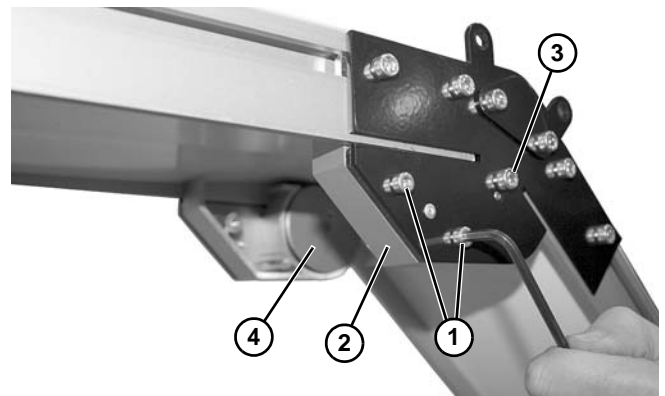

Figure 123
- If equipped with an upper knuckle, remove screws (**Figure 123, item 1**) and remove guard (**Figure 123, item 2**) on both sides of knuckle.
- Remove screw (**Figure 123, item 3**) and remove roller bearing assembly (**Figure 123, item 4**) on both sides of knuckle.